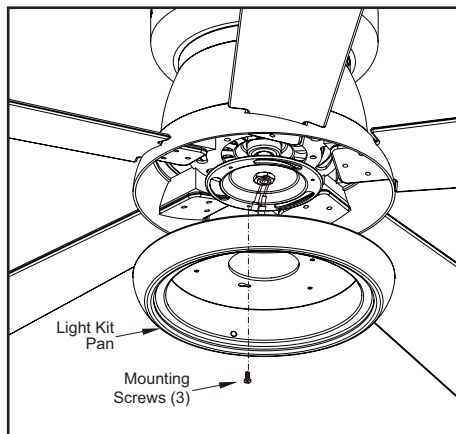

Figure 11
1. Loosen but do not remove two of three mounting screws from the fan motor assembly; Remove one mounting screw. (Figure 11)
2. Push the light kit pan up to the fan motor assembly so that the two loosened screw heads fit into the keyhole slots. Turn the light kit pan clockwise, tightening the screws. Re-install the screw that was removed in step 1 and tighten firmly. (Figure 11)